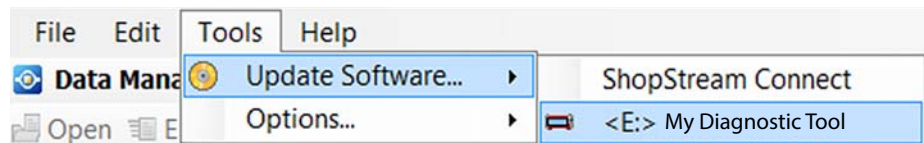

Figure 15-11
1. Select **Tools > Update Software > (diagnostic tool type - e.g. ETHOS Edge, MODIS Edge, SOLUS Edge, etc.)** from the Menu bar (Figure 15-11).